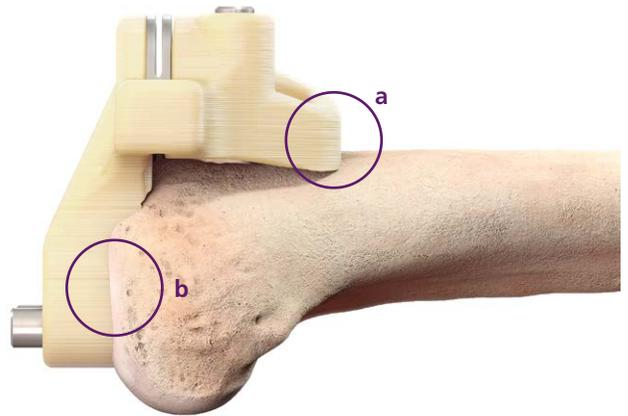

Figure 15
- a. The Femoral Resection Guide's primary reference surface is the anterior cortex of the femur (Figure 15-a). The uppermost portion of the Guide should clear the anterior femoral flange and sit flush on the cortical surface. It may be necessary to remove the thin soft tissue to expose the underlying bone. When positioning the Guide, apply most of the pressure (~75%) against the anterior aspect of the femur.
- b. Distally, the guide should be in contact with the distal femoral condyles, although a slight gap may exist along the periphery (Figure 15-b). If the Guide is securely positioned anteriorly, do not force the Guide's arms to sit flush on the femoral condyles. While applying anterior force, also apply light force (~25%) distal-to-proximal, to stabilize the Guide. Secure it by inserting the Anterior Fixation Pins (3.15 mm diameter anterior fixation pins).